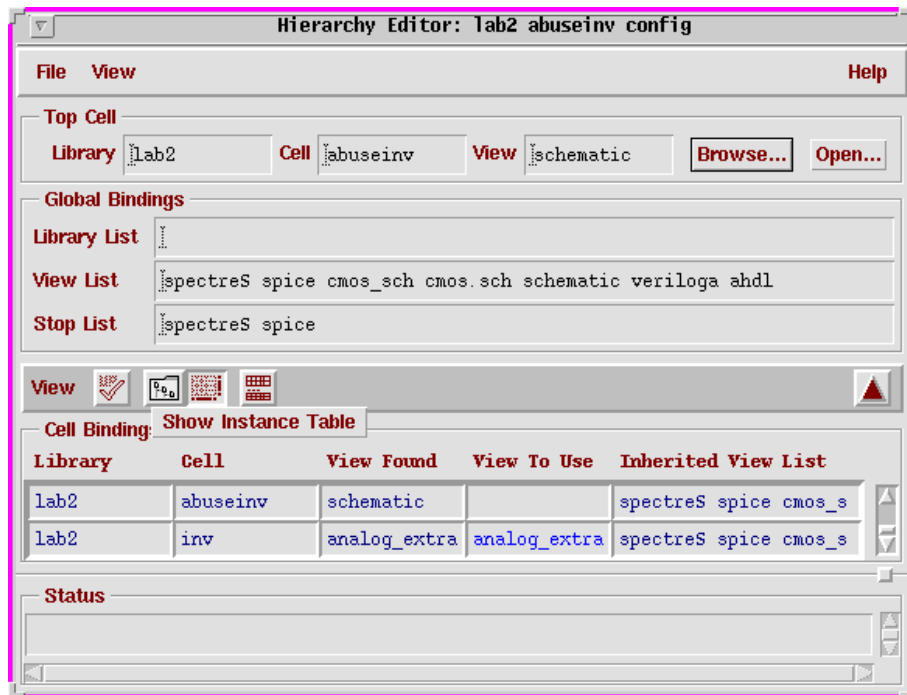

Figure 6.2: The Hierarchy Editor.
3. In the form of the **Hierarchy Editor** (figure 6.2) is a list of the cells of the construction. By clicking right in the column **View To Use** followed by *Select >* it is possible to browse among the available views of this cell. After changes always do *View > Update* and *File > Save*.